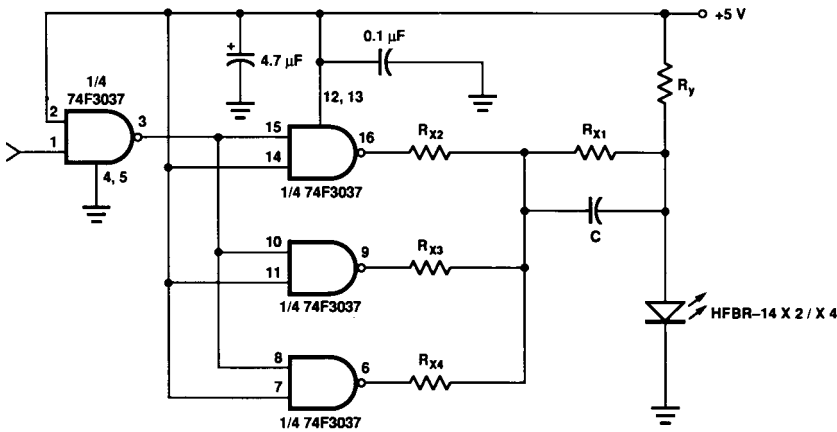

Figure 11. Recommended Drive Circuit.
- Pre-bias is recommended if signal rate $> 10\text{ MBd}$, see recommended drive circuit in Figure 11.
Figure 11 uses frequency compensation to reduce the typical rise/fall times of the LED and a small pre-bias voltage to minimize propagation delay differences that cause pulse-width distortion. The circuit will typically produce rise/fall times of 3 ns, and a total jitter including pulse-width distortion of less than 1 ns. This circuit is recommended for applications requiring low edge jitter